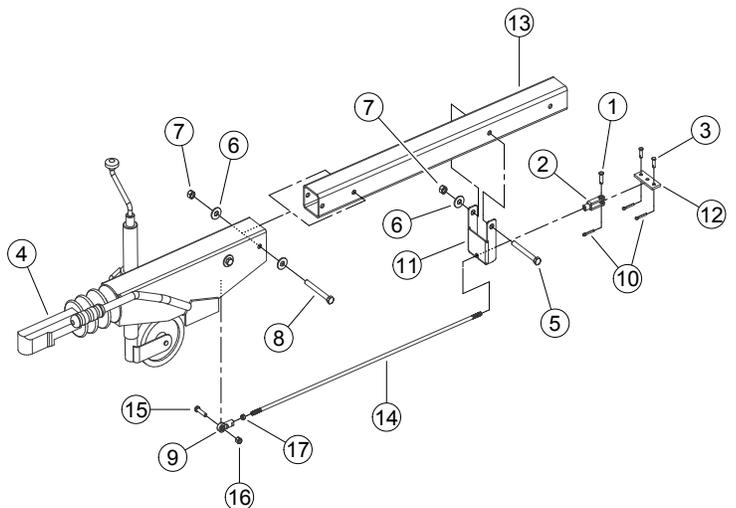

Figure 2.3, CE Compliant Hitch Assembly
#### CE COMPLIANT (FIGURE 2.3)
1. Place hitch pole (13) into machine frame. Place one 1/2" x 4 1/2" bolt, washer and centerlock nut through frame and end hole of hitch pole. Next, align the brake rod hanger bracket (11) (as shown in figure 2.3) to the other mounting hole and secure by placing the second 1/2" x 4 1/2" bolt (5) through the frame and hanger bracket, add washer (6) and centerlock nut (7). Torque both to 75 ft-lbs.